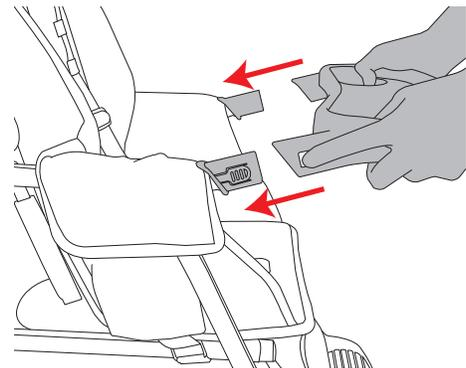

Figure 10
- To attach the front tray, line up the female fittings on the tray with the male fittings on the front of the stroller and push inward until the fittings snap into place. See Figure 10. Pull outward on both sides of the tray to be sure both are snapped securely in place.